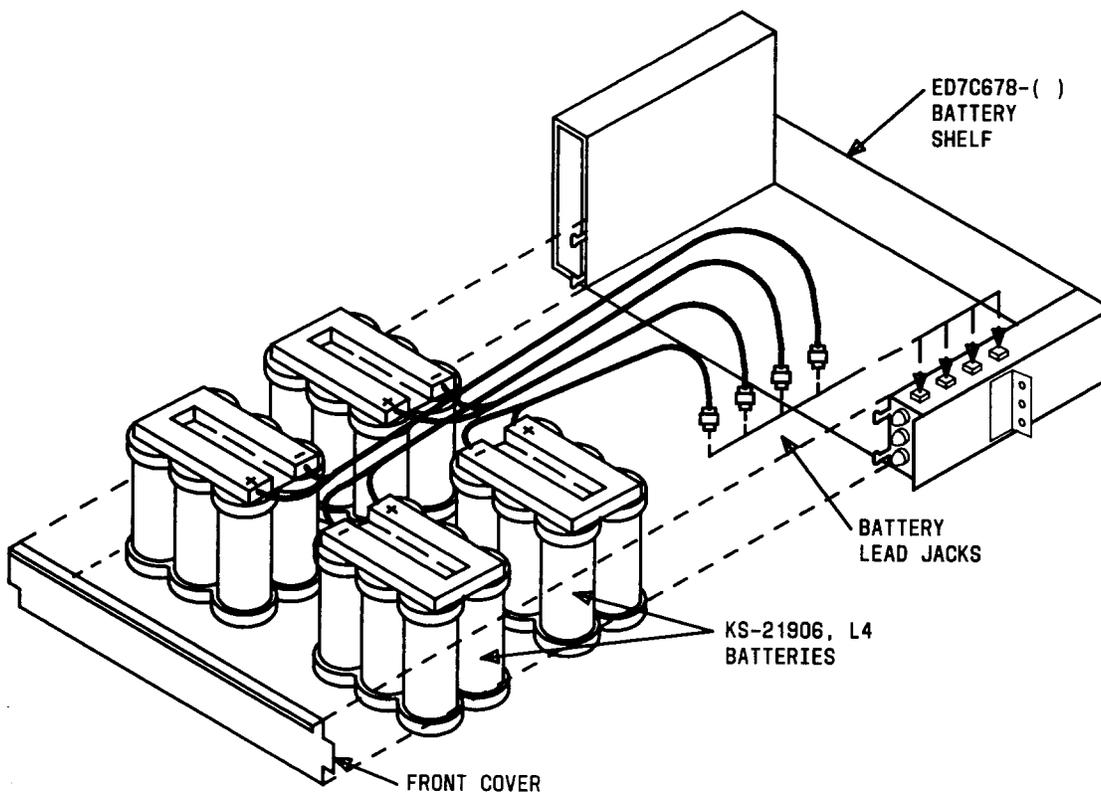

Fig. 2—Battery Placement and Connections
5. Place batteries on battery shelf and dress battery cables as each battery pack is placed on shelf (Figure 2).